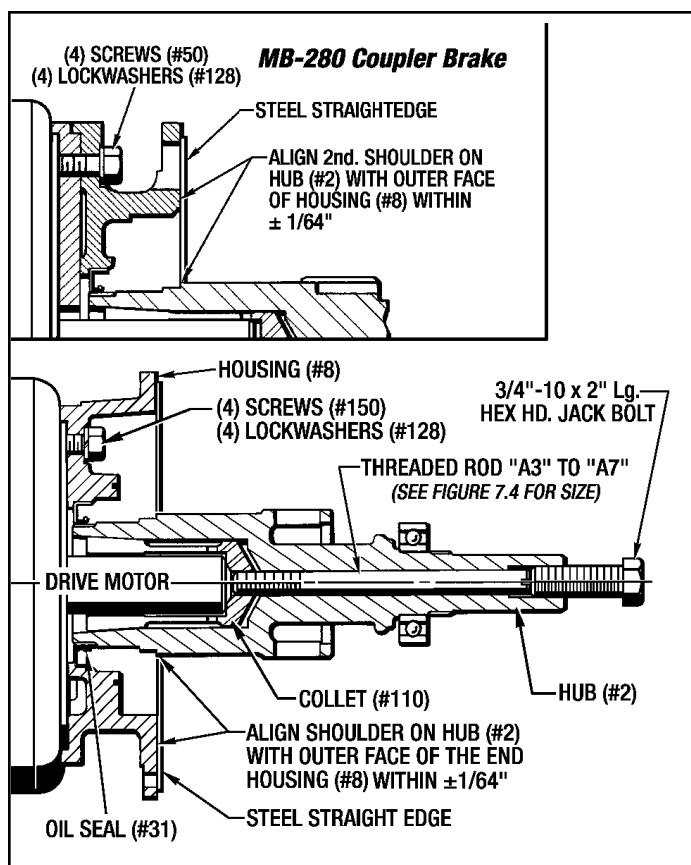

Figure 9.10 - Installing Hub (#2) on MB-250 & 280 Coupler Brake
1. Place the Collet (#110) on the motor shaft as far as it will go. (See **Figure 9.10**)
4. Using a steel straight edge, align the **2nd. Shoulder** of the Hub (#2) with the **Outer Face** of Housing (#8) within  $\pm 1/64"$  as shown in **Figure 9.10**.
5. Install the correct Threaded Rod "A" into the Collet (#110) approx. 4 or 5 turns. **Hand tighten** the Jack Bolt into the end of the Hub (#2) just until it makes contact with the Threaded Rod "A". **Do not tighten any further.** (See **Figure 9.10** above.)